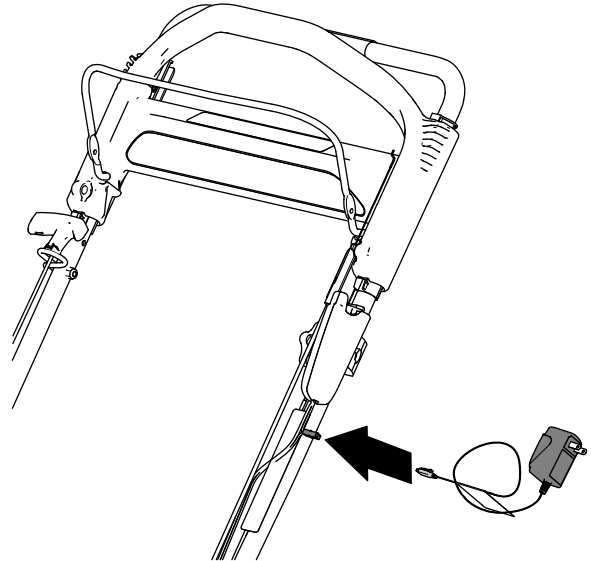

Figure 29
1. Connect the charger to the wire harness located below the electric-start button (Figure 29).